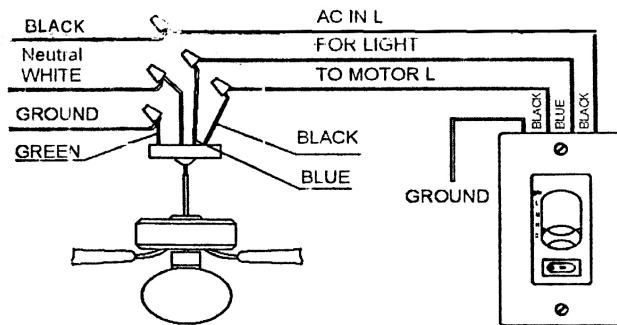

Figure 1.
1.Installing Wall Control(Figures 1):
- .Make wiring connections with wire nuts as shown in Figure 1.